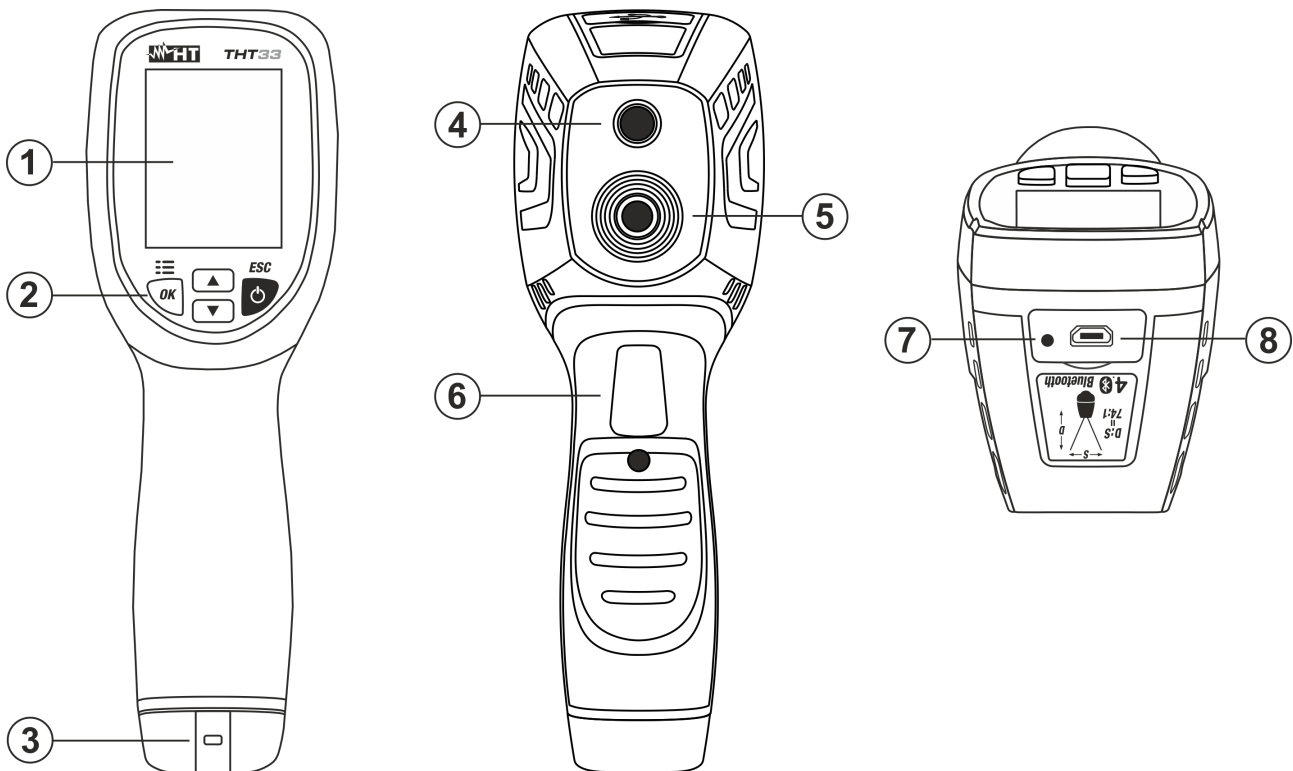

Fig. 1: Description of the instrument
- Press and hold (>2s) the key to activate/deactivate the built-in white LED illuminator (see Fig. 1 – part 4).